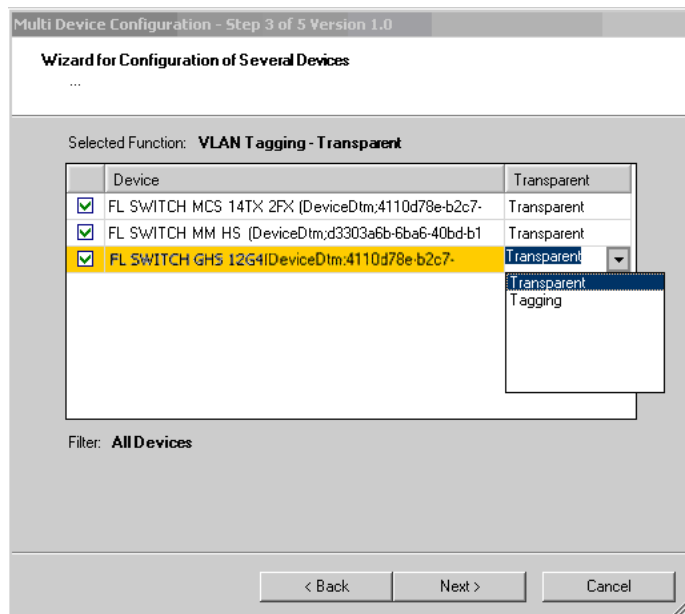

Figure 4-19 Selecting the tagging mode
- Step 3: A list is displayed of all the devices that support VLAN tagging (see Figure 4-19).
- In the table, devices can be simultaneously selected as “Transparent” or “Tagging” (see Figure 4-19).